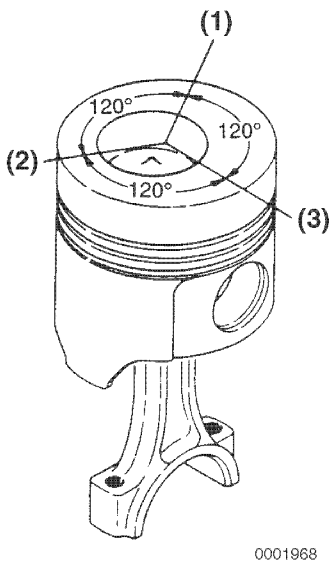

Figure 6-93
8. Stagger the piston ring end gaps at 120° intervals (**Figure 6-93, (1, 2, 3)**). Do not position the top piston ring end gap in line with the wrist pin.